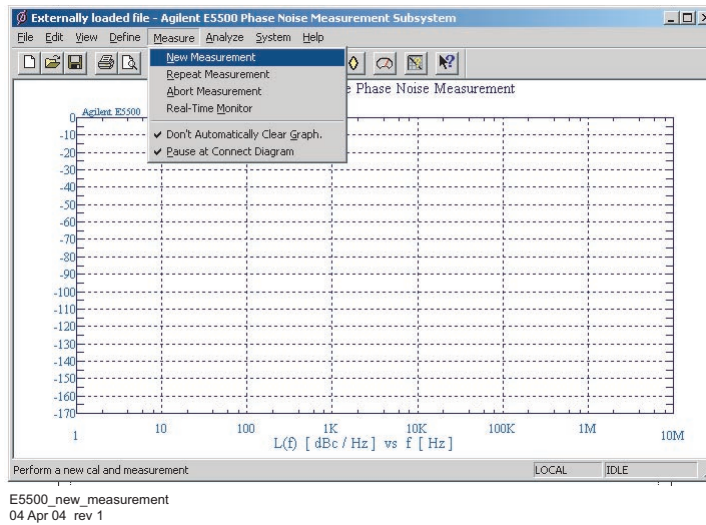

Figure 91 Selecting a new measurement
- 1 From the **Measurement** menu, choose **New Measurement**. See Figure 91.